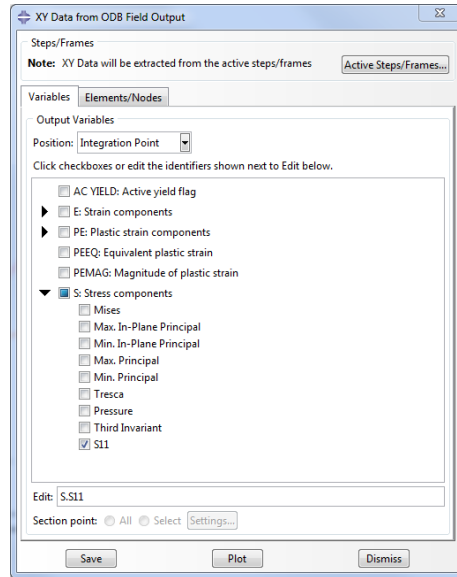

Figure 40. XY Data from ODB Field Output
- The **XY Data from ODB Field Output** dialog box will appear (Figure 40). Under the **Variables** tab click the **black** arrowhead next to **S: Stress components**. This click will expand the selection for